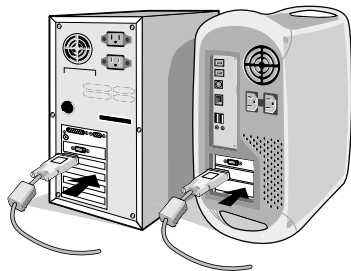

Figure A.1
2. **For the PC or MAC with DVI digital output:** Connect the DVI signal cable to the connector of the display card in your system (**Figure A.1**).